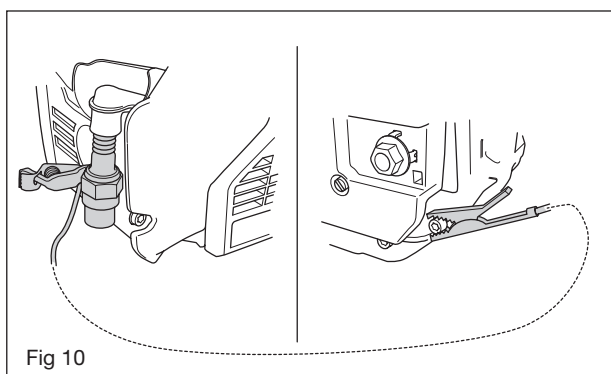

Fig 10
- Unscrew the spark plug. Fit the 507 71 13-01 spark plug to the ignition cable and connect the cabling used to test the 577 83 18-01 ignition module as outlined in Figure 10.